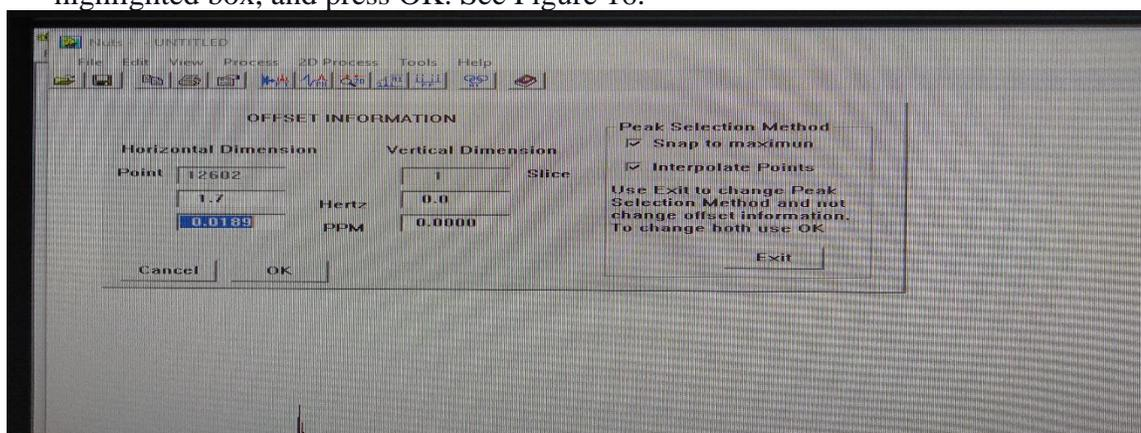

Figure 16. Selecting the reference.
20) Move the cursor to the top of the most right side peak (TMS peak), a) left-click, and type the letter 'O' simultaneously. A Box will pop up, put 'zero' into the blue highlighted box, and press OK. See Figure 16.